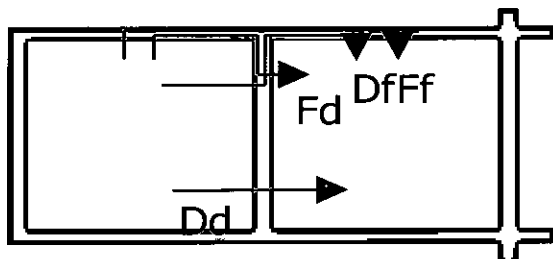

Fig 1 A section through a building showing the dominant flanking paths.
Considering the path Ff in Figure 1 it can be seen that transmission between the two rooms involves excitation of the flanking wall in the source room, transmission from one wall to another wall followed by radiation from the wall into the receiving room. The part associated with excitation of the wall in the first room and radiation from the wall in the second room is very similar to sound transmission through the flanking wall. It is therefore possible to write down the sound transmission by the flanking path (1) in terms of the SRI of the flanking wall and additional terms as
between adjacent rooms both by the direct path and by the most important flanking transmission paths each of which crosses one structural junction. The approach used is a simplified version of Statistical Energy Analysis (SEA) with a notation which is simpler to use when using measured data (2). The Standard is restricted to the situation where the two rooms are adjacent unlike SEA which can solve general problems. The method adopted is to break the very complex problem of sound transmission down into a number of individual transmission paths, see Figure 1, each of which can be calculated separately. Thus it can be seen that there is one direct path (Dd) and for each edge of the common wall there will be three flanking paths (Fd, Df, Ff). There are therefore 13 transmission paths that need to be considered when calculating flanking transmission between any two rooms. The actual calculation method is given in a later section and uses data that can be measured or calculated.